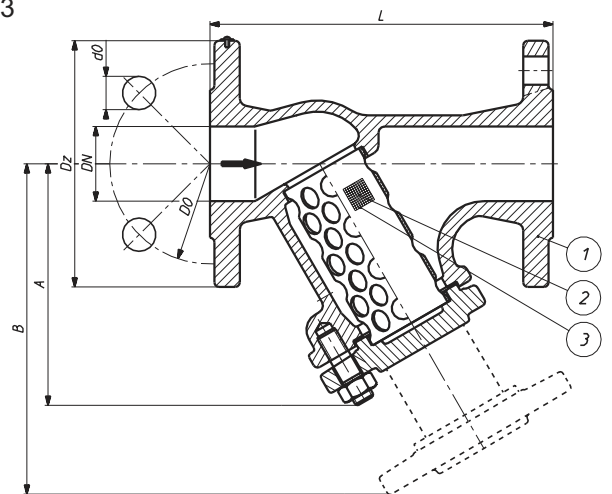

Fig. 1 Design and dimensions of the strainer
Strainers incorporate the following major components (Fig. 1): body (1), strainer insert (of mesh type) (2) and strainer cover (3). The upper part of the cylindrically wound insert, is introduced into the strainer body whereas its lower part rests on the strainer cover that acts simultaneously as a dirt trap. Both bodies and covers of the strainers are made of grey or spheroidal iron. The inserts (of mesh type) represent a unit that is composed of an enclosure, made of stainless steel and a mesh, weaved of stainless steel wires.